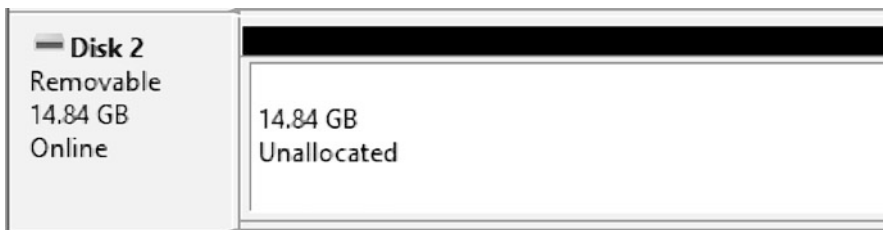

Fig. 11.20: The microSD card after the partitions have been deleted
- b. For each partition listed for the microSD card disk, right click and select “Delete Volume.” **WARNING:** Triple check that this volume is associated with the microSD card. Windows will ask “Do you want to delete this partition.” Select Yes (after making sure this is the microSD card disk). It should now look like (Fig. 11.20):